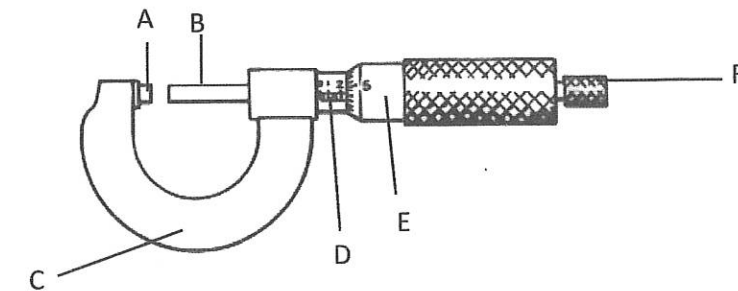

Figure 1a
- (a) Name the parts with label A, B, C, D, E and F as shown in **Figure 1a**.